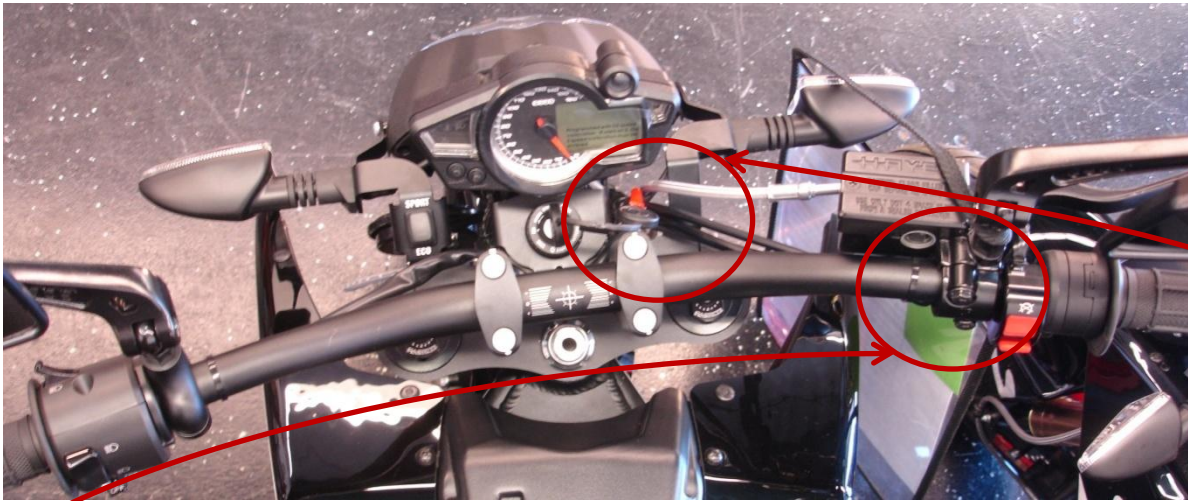

Figure 4
- Note the location of the two cable ties in FIGURE 4. These cable ties are to be severed upon removal of the front brake switch in question.
- Snip the two cable ties securing the brake light switch wires. See FIGURE 4, 5 and 6 for details